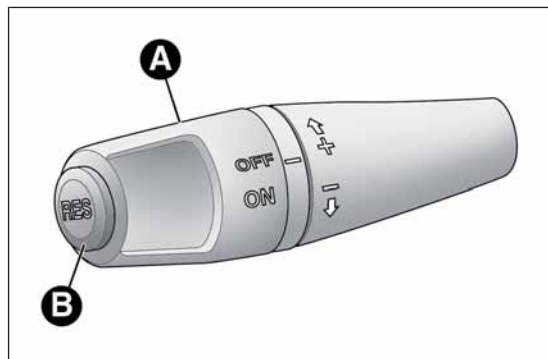

fig. 38
Turn ring nut A fig. 38 to ON.
- ☐ turn ring nut A fig. 38 to ON and press the accelerator to reach the required speed.
- ☐ press the RES button (B fig. 38).
- turn ring nut A fig. 38 to OFF;
***If operation is inadequate or the device is faulty, turn ring nut A fig. 38 to OFF and contact Alfa Romeo Authorized Services.***